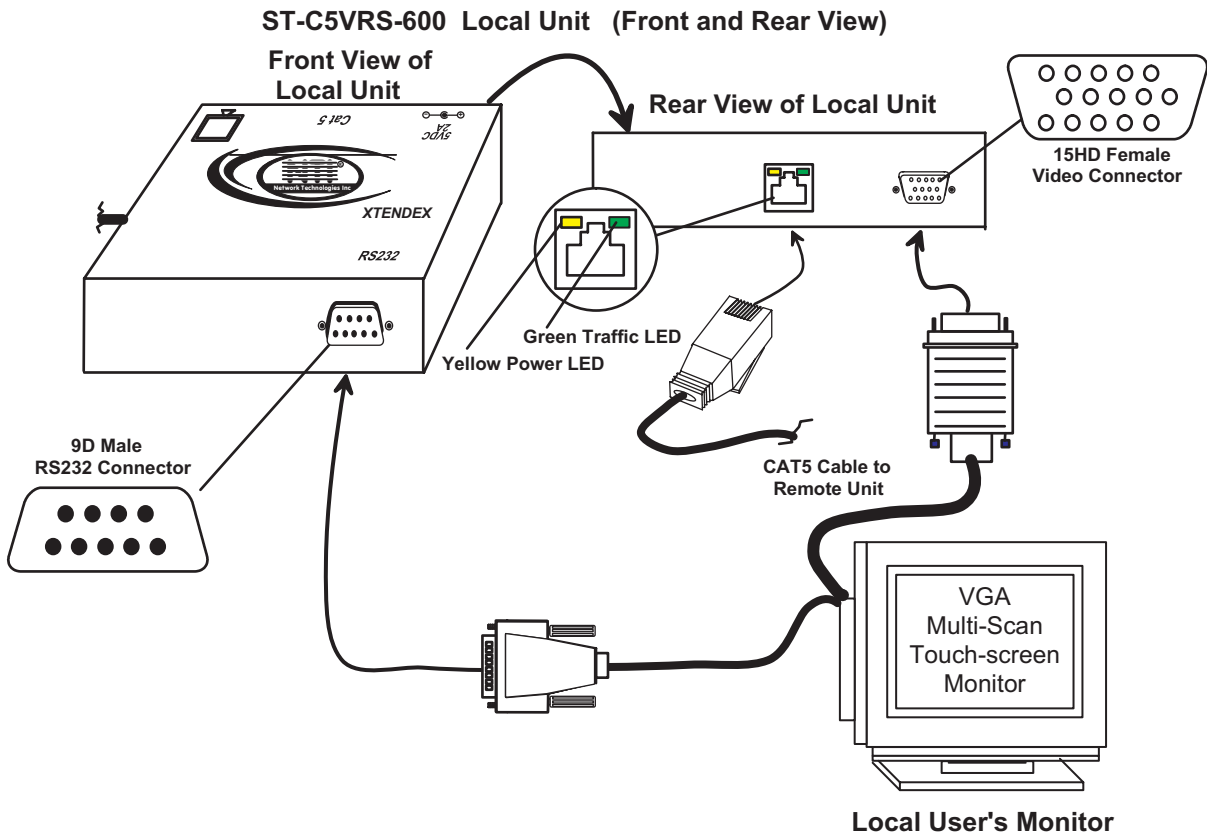

Figure 2- Connect Local User's Monitor to Local Unit
- b. Connect the local user's RS232 cable from a touchscreen monitor (see Fig. 2) to the 9D male port on the Local Unit.
3. Connect the CAT5 cable to the "Cat 5" port on the Local Unit. (See Fig. 2.) When properly inserted the cable end should snap into place.